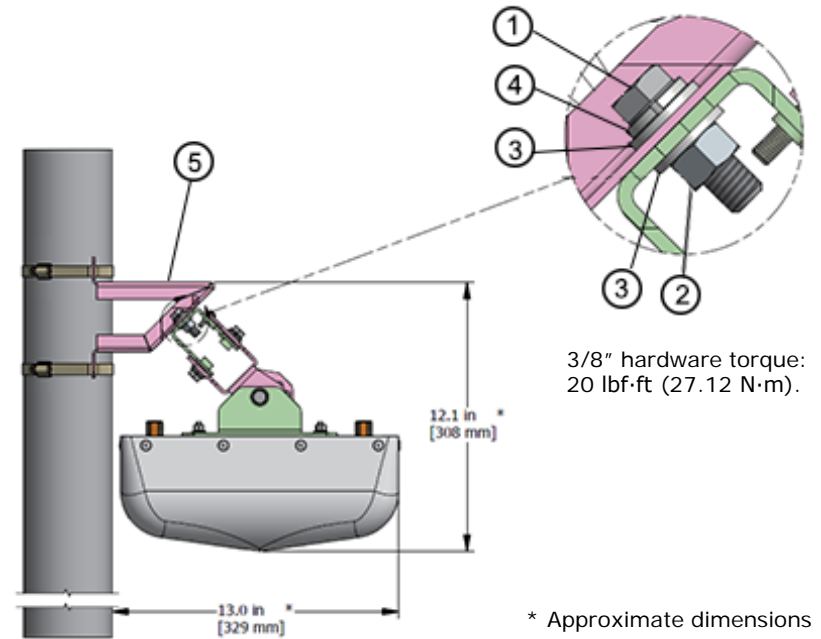

Figure 10: Inverted mount: side view details
**NOTE:** These item numbers refer to *Figure 10*.